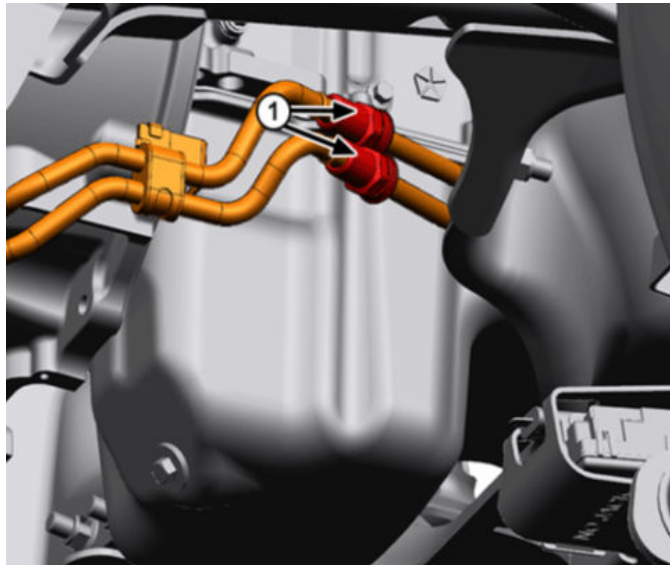

**Fig. 5**
8. Disconnect the fuel line, purge line and vent line Fig. 5.
20. Connect the fuel line, purge line and vent line Fig. 5.